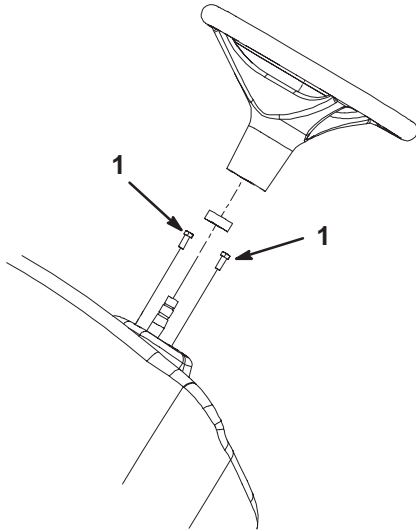

Figure 5
- 3. Anchor (2)
12. Remove and discard the two screws securing the dash to the steering column (Fig. 5).